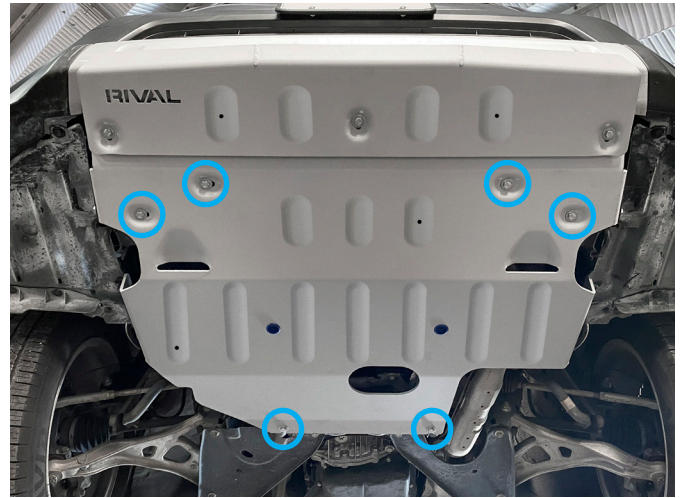

Fig.10
9. Slide rear of the skid plate over the hardware installed in step 8 and secure to previously installed brackets (Items 3,4) using M8x25 bolts and M8 washers (Items. A,B) as shown in Fig. 10.